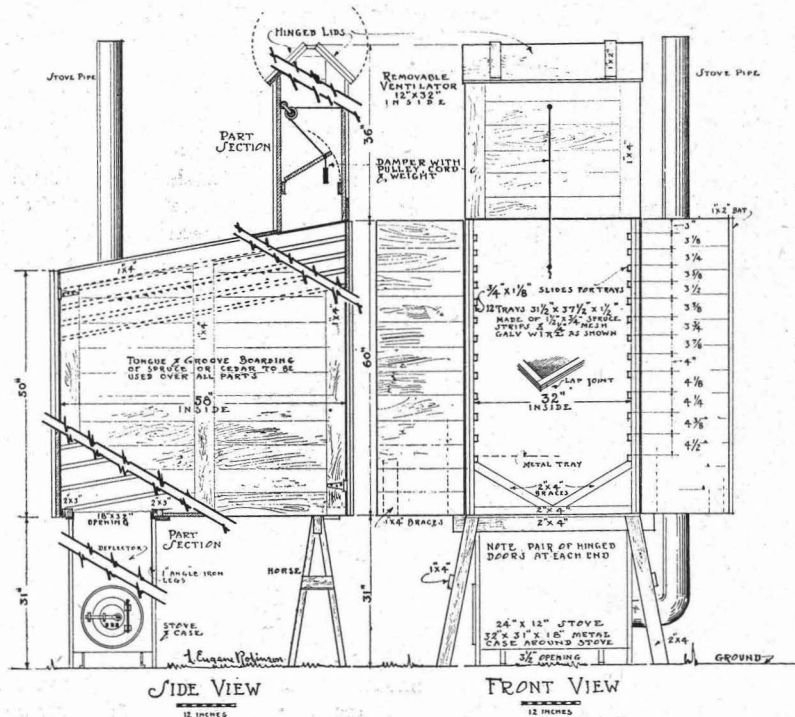

Fig. 4. Detail of moderate-sized evaporator.
**Cabinet.** The cabinet which is to hold the fruit is of such a size that standard trays ( $31\frac{1}{2}" \times 37\frac{1}{2}"$ ) as used in most tunnel evaporators will fit. The trays when inserted are offset on the slides  $1\frac{1}{2}"$  each to get a better distribution of the heated air over all trays. For the same reason, also, the slides which support the trays are spaced closer together toward the top, and are all given an upward inclination from the front of 2 inches to the foot. (See Fig. 4.)